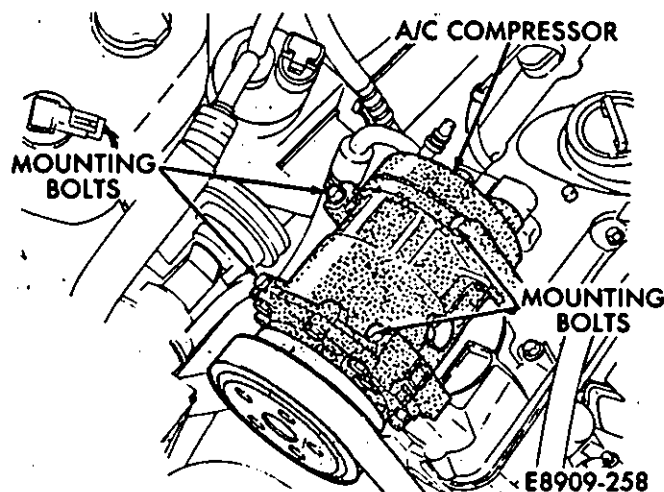

Fig. 15—A/C Compressor Bolts
(42) Stow the power steering pump and reservoir in the drivers side of the engine compartment.
(43) Lower the vehicle.
(44) If equipped, remove the air conditioning compressor mounting bolts (Fig. 15). Remove the A/C compressor and stow it in the passengers side of the engine compartment.
(45) Raise the vehicle halfway.
(46) Remove the front tires.